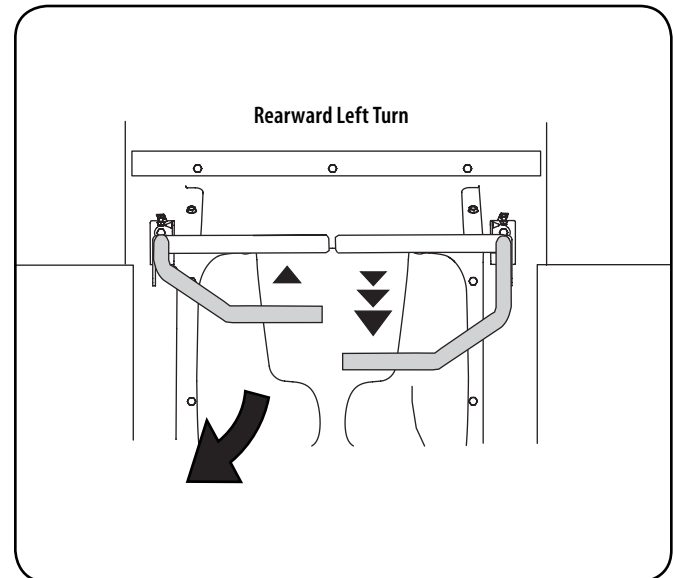

Figure 15
1. To turn to the left while traveling in reverse, move the left drive control lever forward of the right lever. See Figure 15.